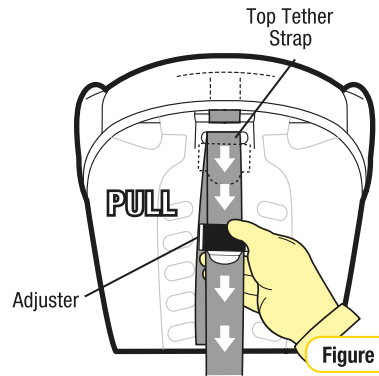

Figure 1
- Step 1:** Pull adjuster and strap to extend the location of the adjuster assembly (refer Figure 1).